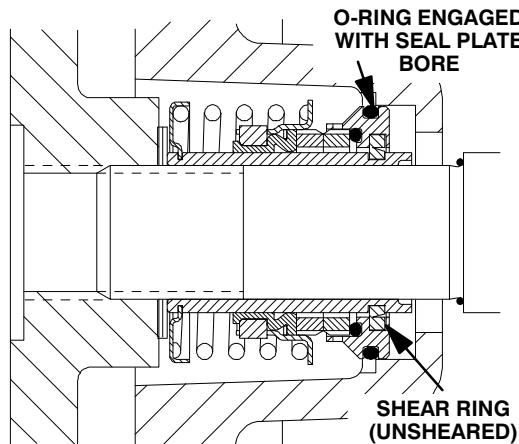

Figure 11. Seal Partially Installed
Clean and inspect the impeller as described in **Impeller Installation and Adjustment**. Install half of the set of impeller shims (25) provided with the seal, and screw the impeller onto the shaft until it is seated against the seal (see Figure 11).